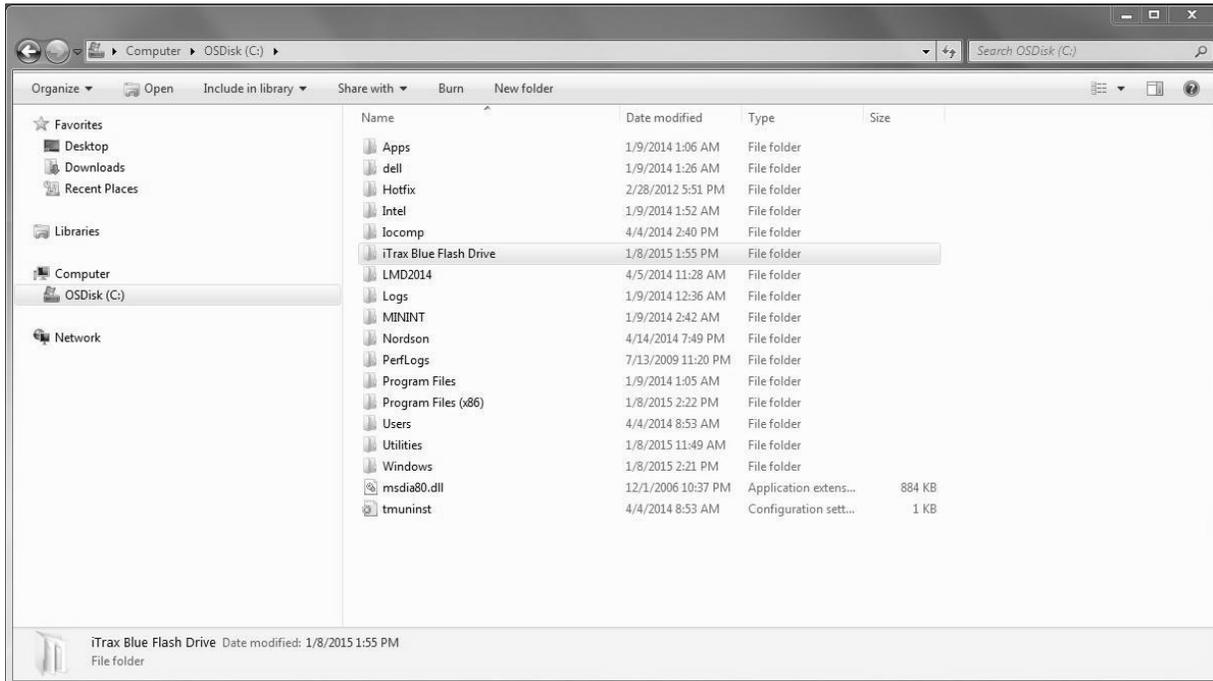

Figure 9 Creating the iTrax Blue Flash Drive Folder
2. See Figure 9. Name the folder *iTrax Blue Flash Drive*.